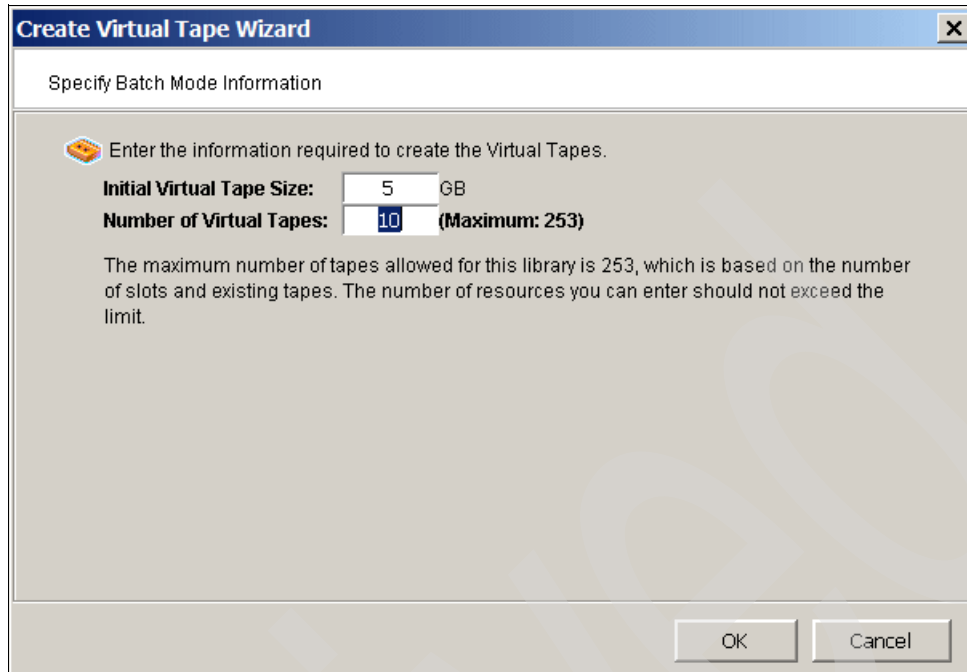

Figure 8-16 TS7500 - Create Virtual tapes
10. In the *Create Virtual Tape Wizard, Specify Batch Mode Information* panel (Figure 8-16), you can choose the initial virtual tape size. The default size for all media types is 5 GB. This means that at least 5 GB of space is required for all virtual tape volumes. You can change this value, but it is not necessary, because while writing to a virtual volume, the volume expands its size in increments defined by the increment size. The increment size is 5 GB for LTO2 and 3592 and 7 GB for LTO3. In this example, we keep the default initial size.